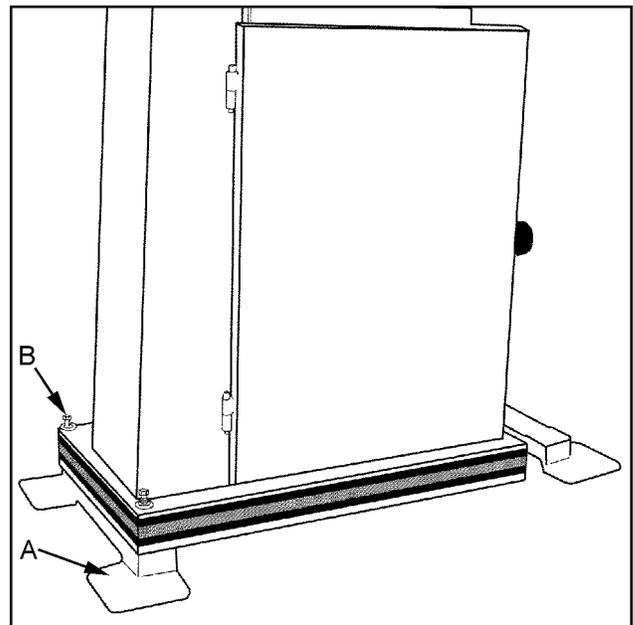

Fig. 1
1. With help from another person tilt the bandsaw just enough to get one set of feet (A, Fig. 1) underneath the base. Line up holes and bolt (B, Fig. 1) through the base into the feet using *two* hex cap bolts 3/8"-16 x 4", *two* 3/8" lock washers, *two* 3/8" flat washers, and *two* 3/8" plastic flat washers.